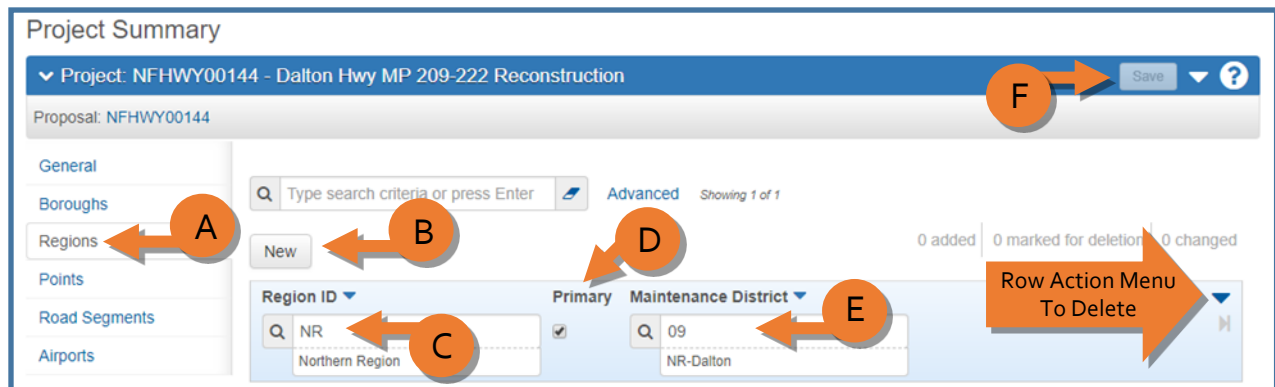

Figure 3.14
1. From the Project Summary component (*Figure 3.14*):
2. (A) Select the **Regions** tab.
3. (B) Click the **<New>** button.
4. (C) In the **Region ID** field, search for and select the appropriate region.
5. (D) Check the **Primary** checkbox if this is the primary region or only region for this project.
6. (E) If applicable, in the **Maintenance District** field, enter the maintenance district or primary maintenance district in which the project lies. Leave the field blank for other types of projects for which M&O will not take over maintenance once construction is complete.
7. (F) Click **<Save>**.
To modify a region record imported from MRS (or created earlier) it is not necessary to delete the existing region record and create a new one. Simply modify the existing record (see *Figure 3.14*):
1. On the Project Summary Regions tab, locate the region record you want to delete (see *Figure 3.14*).